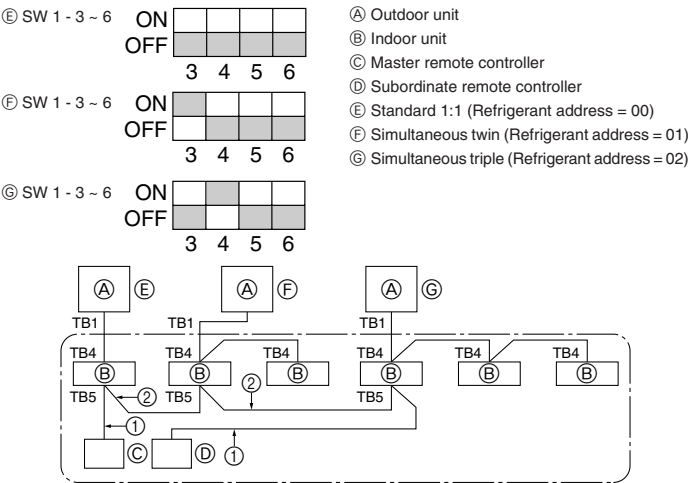

Fig. 10-1
- ① Before collecting the refrigerant, first make sure that all of the SW5 DIP switches for function changes on the control board of the outdoor unit are set to OFF. If all of the SW5 switches are not set to OFF, record the settings and then set all of the switches to OFF. Start collecting the refrigerant. After moving the unit to a new location and completing the test run, set the SW5 switches to the previously recorded settings.
- ② Supply power (circuit breaker).
- ③ After the liquid stop valve is closed, set the SWP switch on the control board of the outdoor unit to ON. The compressor (outdoor unit) and ventilators (indoor and outdoor units) start operating and refrigerant collecting operation begins. LED1 and LED2 on the control board of the outdoor unit are lit.
- ④ Because the unit automatically stops in about two to three minutes after the refrigerant collecting operation (LED1 and LED2 are lit), be sure to quickly close the gas stop valve. When LED1 and LED2 are lit and the outdoor unit is stopped, open the liquid stop valve completely, and then repeat step ③ after three minutes have passed.
- ⑤ Turn off the power supply (circuit breaker).
10. System control (Fig. 10-1)